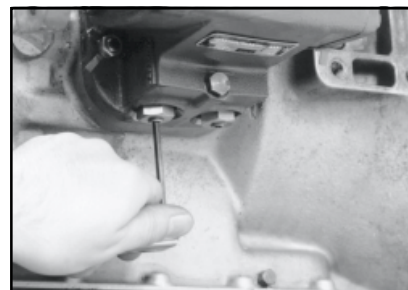

Figure 9
8. There are two (2) large drilled and tapped holes on the 230, 270 and 800 Series P.T.O. housing (See Fig 9). These two holes come with plugs installed. (Fig 9) The 852 Series has one (1) drilled and tapped hole in the inspection plate.